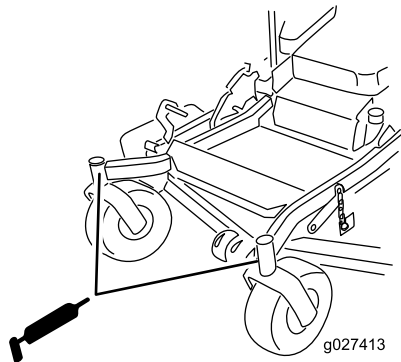

Figure 45
10. Install the hex plug and dust cap (Figure 45).
11. Grease the caster-wheel bearings (Figure 45).